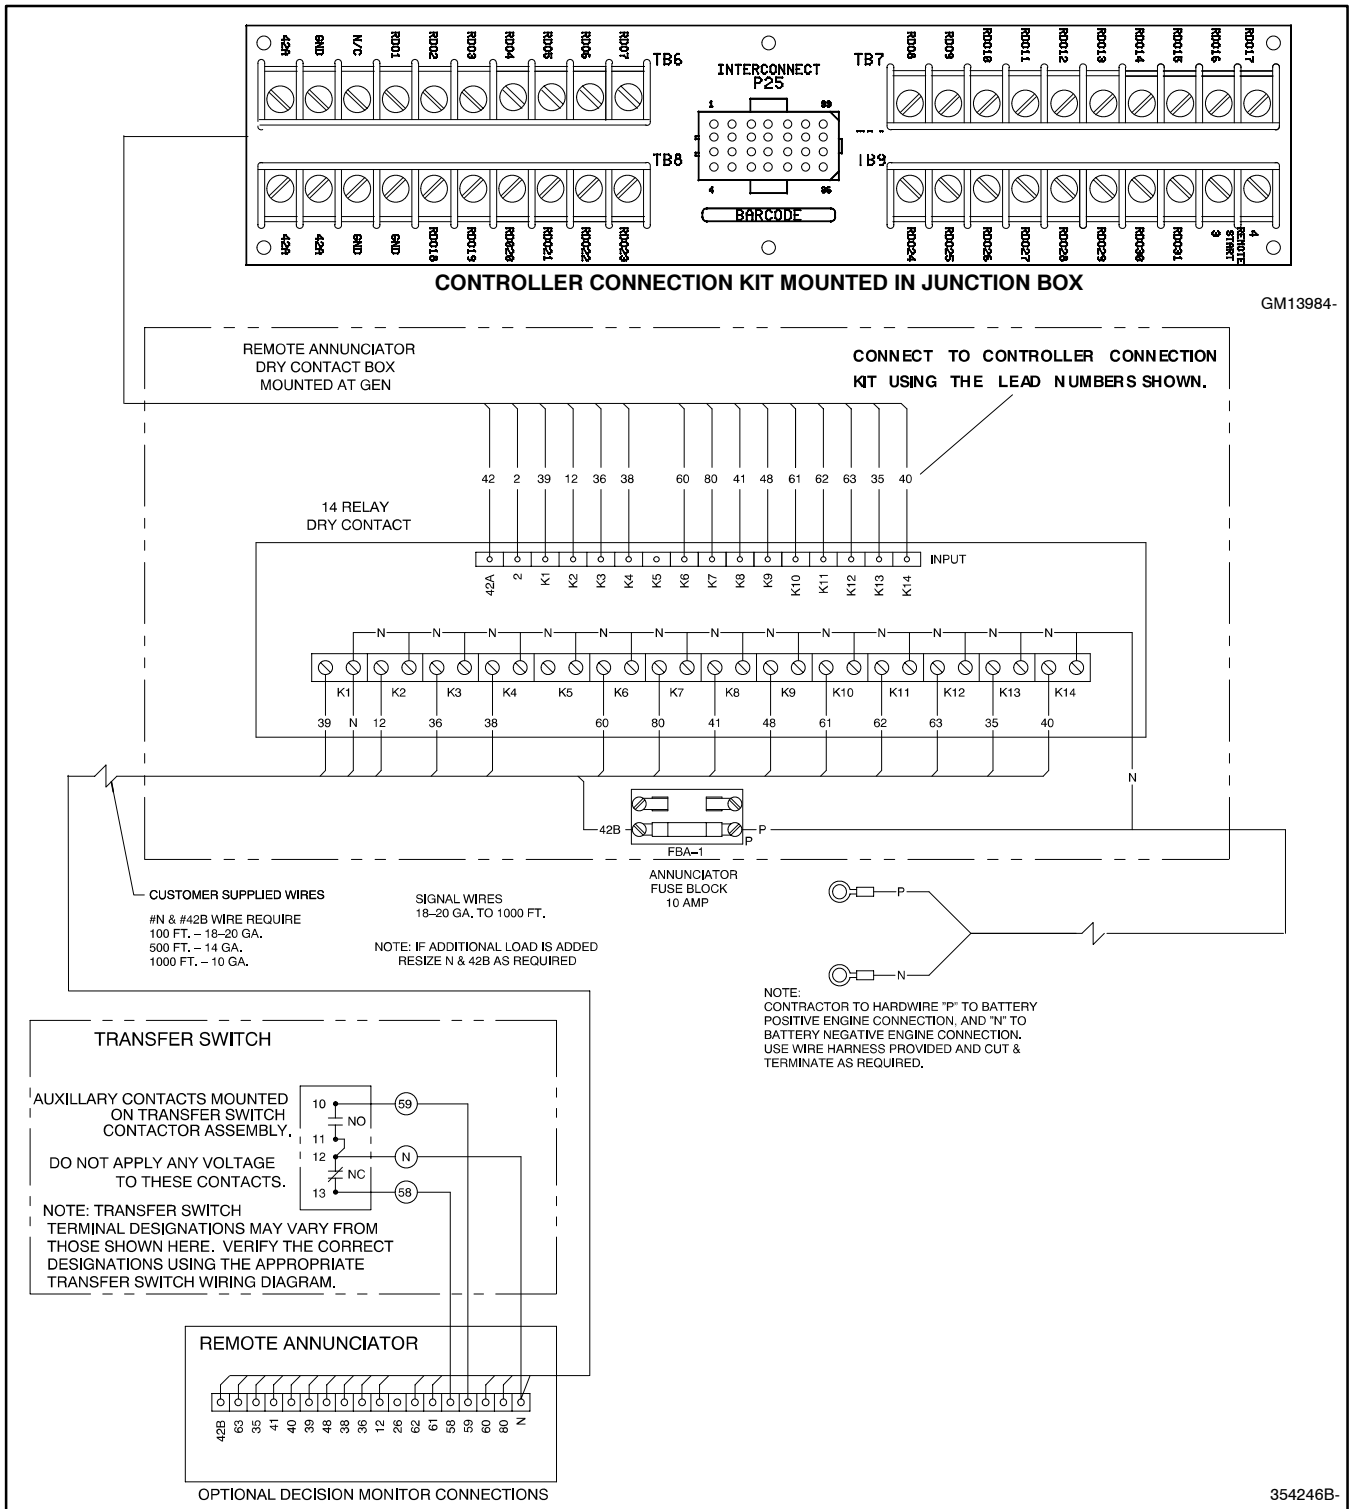

Figure 7 Remote Annunciator with 14-Relay Dry Contact Kit Connections
3.4 Wire the 14-relay dry contact box to the controller connection terminal strip using the cable wiring harness (293982). See Figure 7. Connect the controller connection terminal strip terminals 2 (ground) and 42A (battery voltage) to the 14-relay dry contact box terminal strip to provide an electrical source to operate the K1-K14 relays.